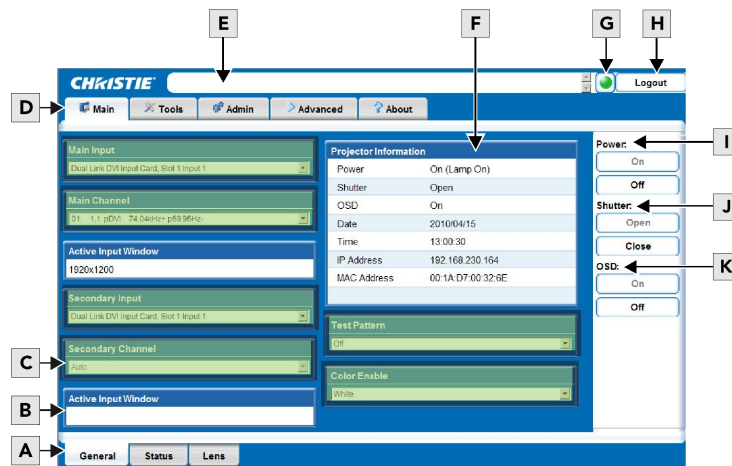

FIGURE 4-3 MAIN WINDOW
4. Click the **Login** button. The **Main** window (see *Figure 4-3*) appears.
The following table describes each area found in the Main window. See *Figure 4-3*.
Under the **Main** tabbed page, select the **General** secondary tab to view general information about Inputs, Channels, Projector Information, Test Pattern, and Color Enable (see *Figure 4-3*). For detailed information refer to *Section 3 Operation*.